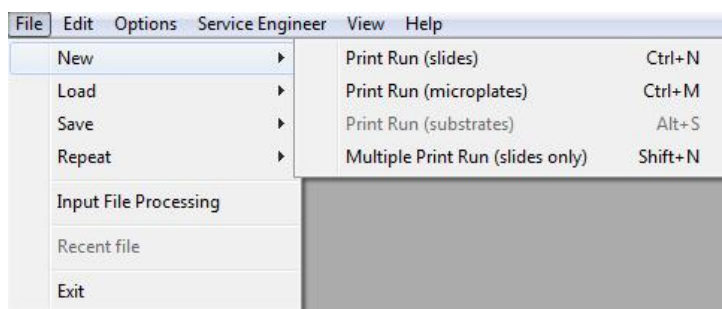

Figure 6-2 The File menu
- With the left mouse button, click **File>New>Print run (slides)** as shown in **Figure 6-2**.